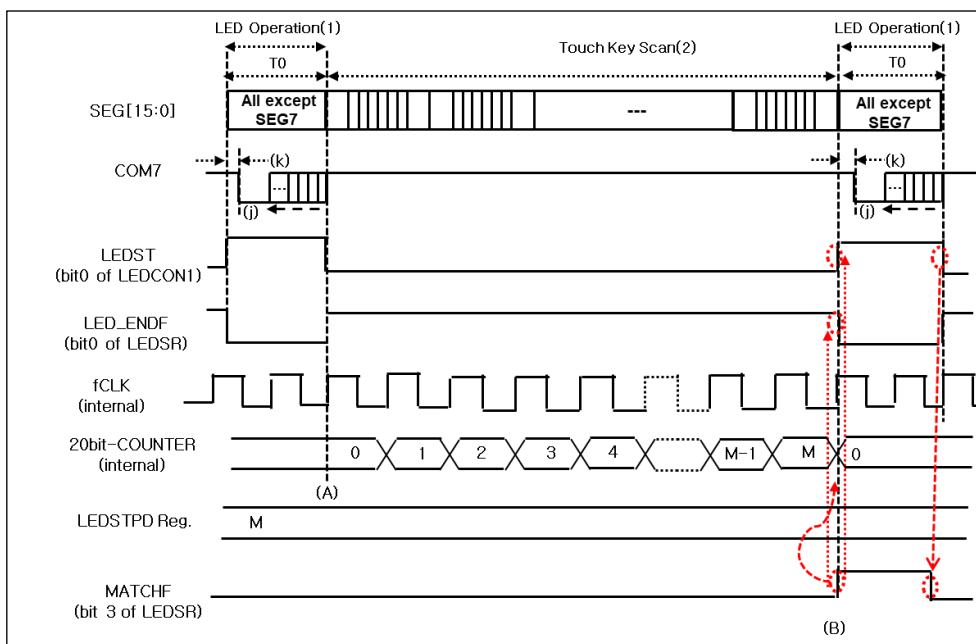

Figure 109. LED Stop Count Mode
Figure 109 show LED STOP Count mode in case of CSER = 1000_0000B. An interrupt occurs at point (A) here the LED operation terminated when LED_INTE is set.